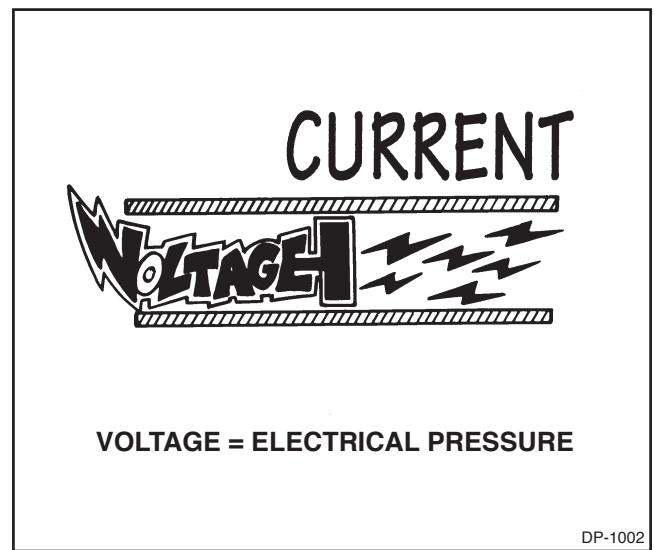

Figure 1-2. Voltage
1. Voltage (See Figure 1-2). Voltage is the electrical pressure or force that causes current or electrons to flow through a conductor. The voltage can also be described as the difference in electrical pressure between two points in a circuit. This electrical force or pressure is measured in volts.